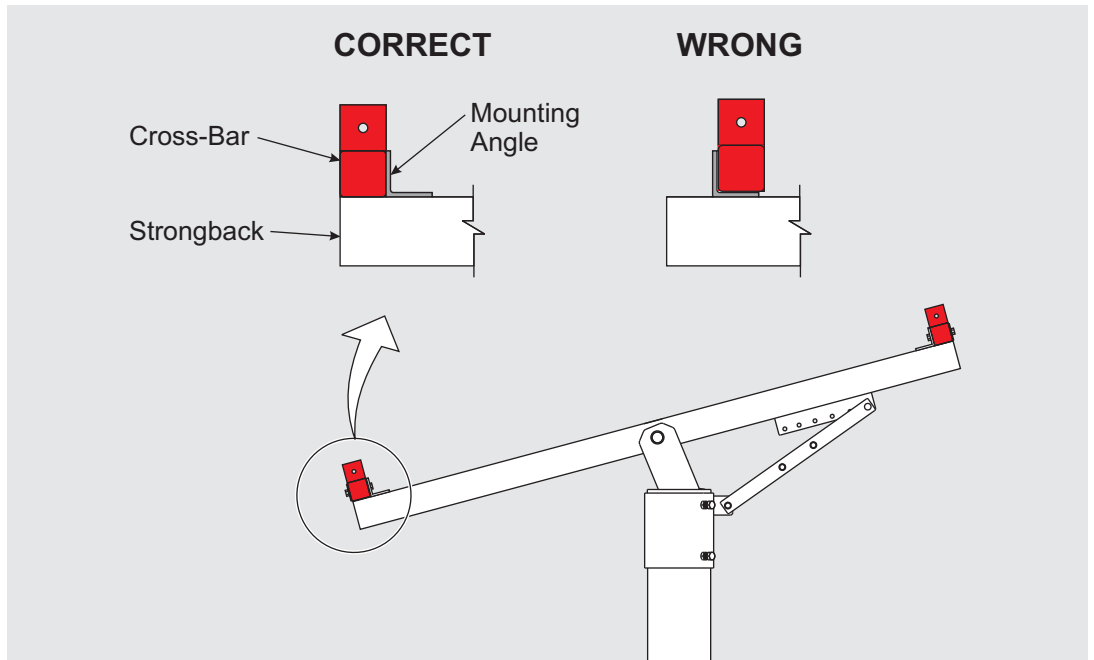
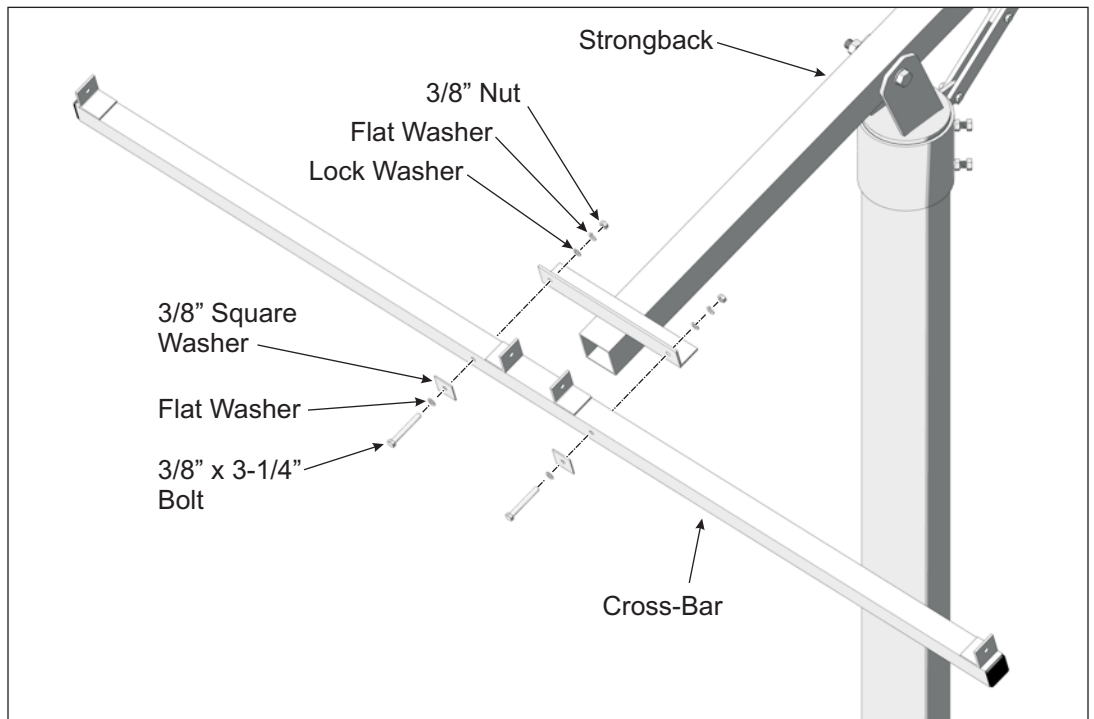

Figure 3-1: Cross-Bar Positioning relative to Mounting Angles
Figure 3-2: Installing Cross-Bars on the Strongback
Cross-Bars are mounted to the outside of the Strongback mounting angles (these are welded to the Strongback); they are not nested into the Mounting Angles. (see figure 3-1)
- A. Position the Cross-Bar to the outside of the Strongback mounting angle (see figure 3-1). Align the mounting holes and secure using 3/8" flat and square washers along with the 3/8" x 3-1/4" bolts and lock washer placing the square flat washer against the Cross-Bar. Tighten hardware and **Torque to 30-32 ft.-lbs.** (see fig 3-2)
- B. Continue in this manner and install the opposite Cross-Bar to the Strongback. Refer to figure 3-1 as needed for proper positioning.